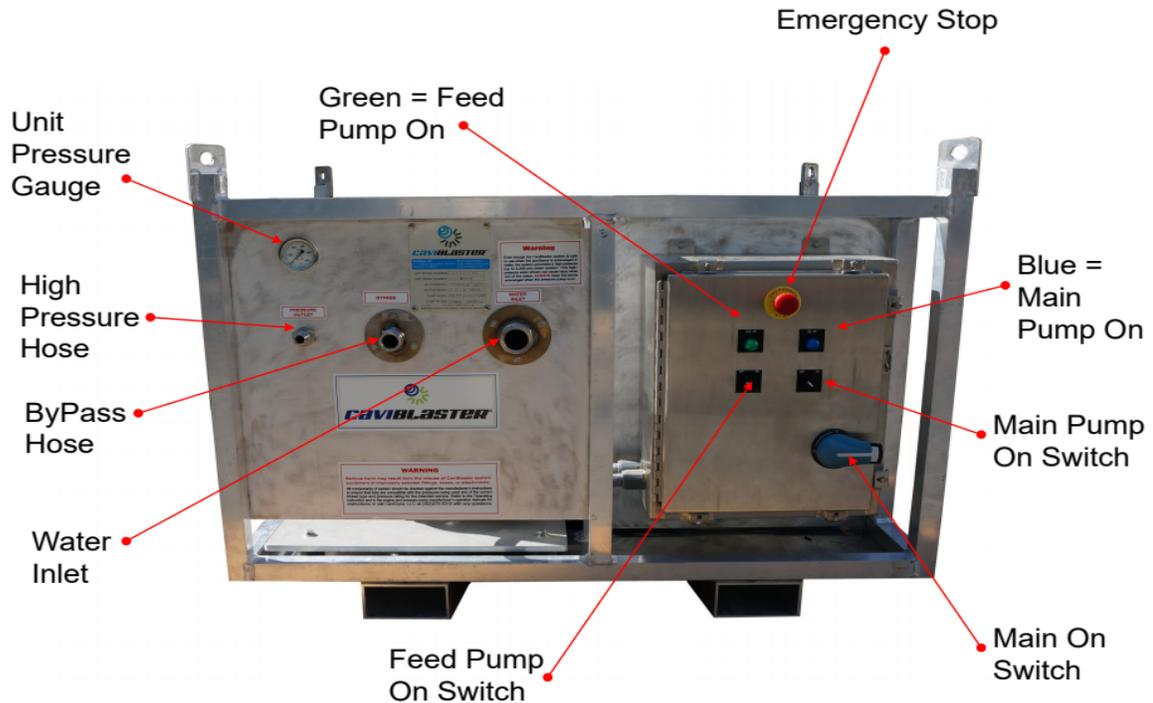

Figure 2.2 – CaviBlaster 1625-E Control panel
Figure 2.2 – CaviBlaster 1625-E Control Panel.....	8
- 10) Connect the bypass hose (See Figure 2.2).
- 11) Connect the pressure hose (See Figure 2.2).
The feed water inlet connection is located on the control panel (See Figure 2.2). An electric water pump is installed to provide positive inlet water pressure to the main pressure pump. Two water supply conditions are acceptable for the CaviBlaster power unit.
- Push IN the E-Stop button to ensure that the power supply has been disconnected. (See Figure 2.2).
- Connect the cam-lock socket on the 1-1/2" clear PVC feed hose to the water inlet connection on the control panel (See Figure 2.2). Place the other end of the hose in the water supply.
- Connect a 1-1/2" cam-lock socket on the water supply hose to the water inlet connection on the control panel (See Figure 2.2).
- Locate the water supply tank so that the outlet of the tank is higher than the water inlet on the control panel (See Figures 2.2 and 4.3).
- Push IN the Emergency Motor Shut-Down button to ensure power has been disconnected. (See Figure 2.2).